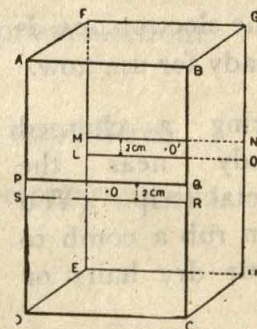

FIG. 2.5.1
2. Mark off PQRS and MNOP on front and back faces as shown in the figure 2.5.1.